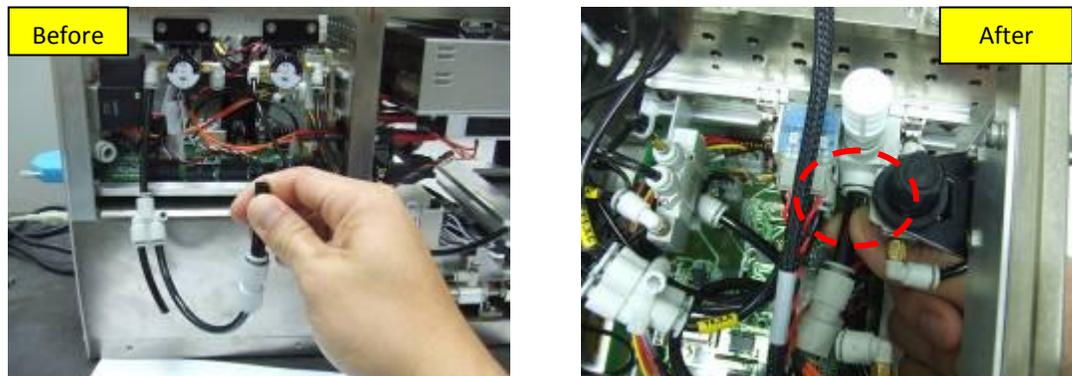

Figure 17: Plugging the M8 tubing end from the straight reducer 8 to 6 into the incoming port
15. Next, plug the M8 tubing end from straight reducer 8 to 6 to the incoming port of the Single Solenoid Valve sub-assembly as shown in Figure 17.